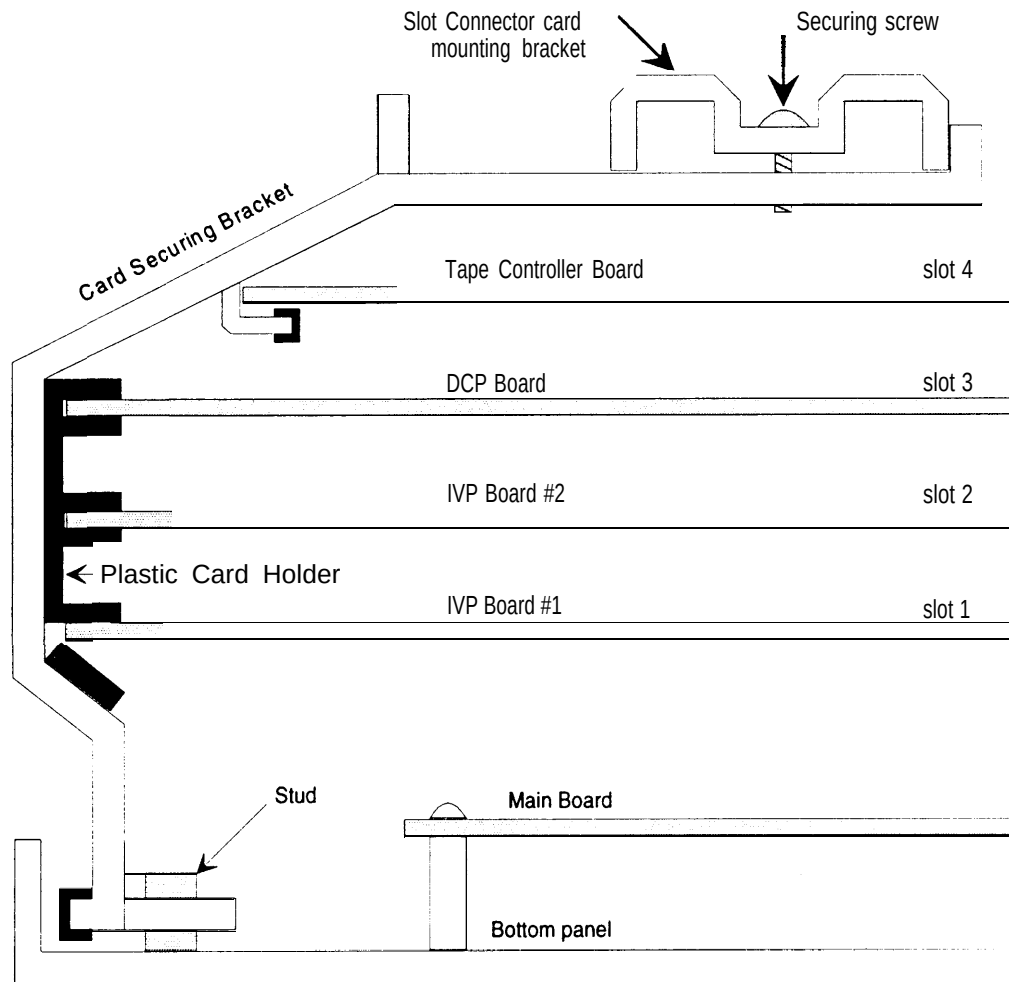

Figure 3-4. Replacing Card Securing Bracket
5. When replacing the Card Securing Bracket, carefully line up and insert the expansion cards into the bracket as shown in Figure 3-4.